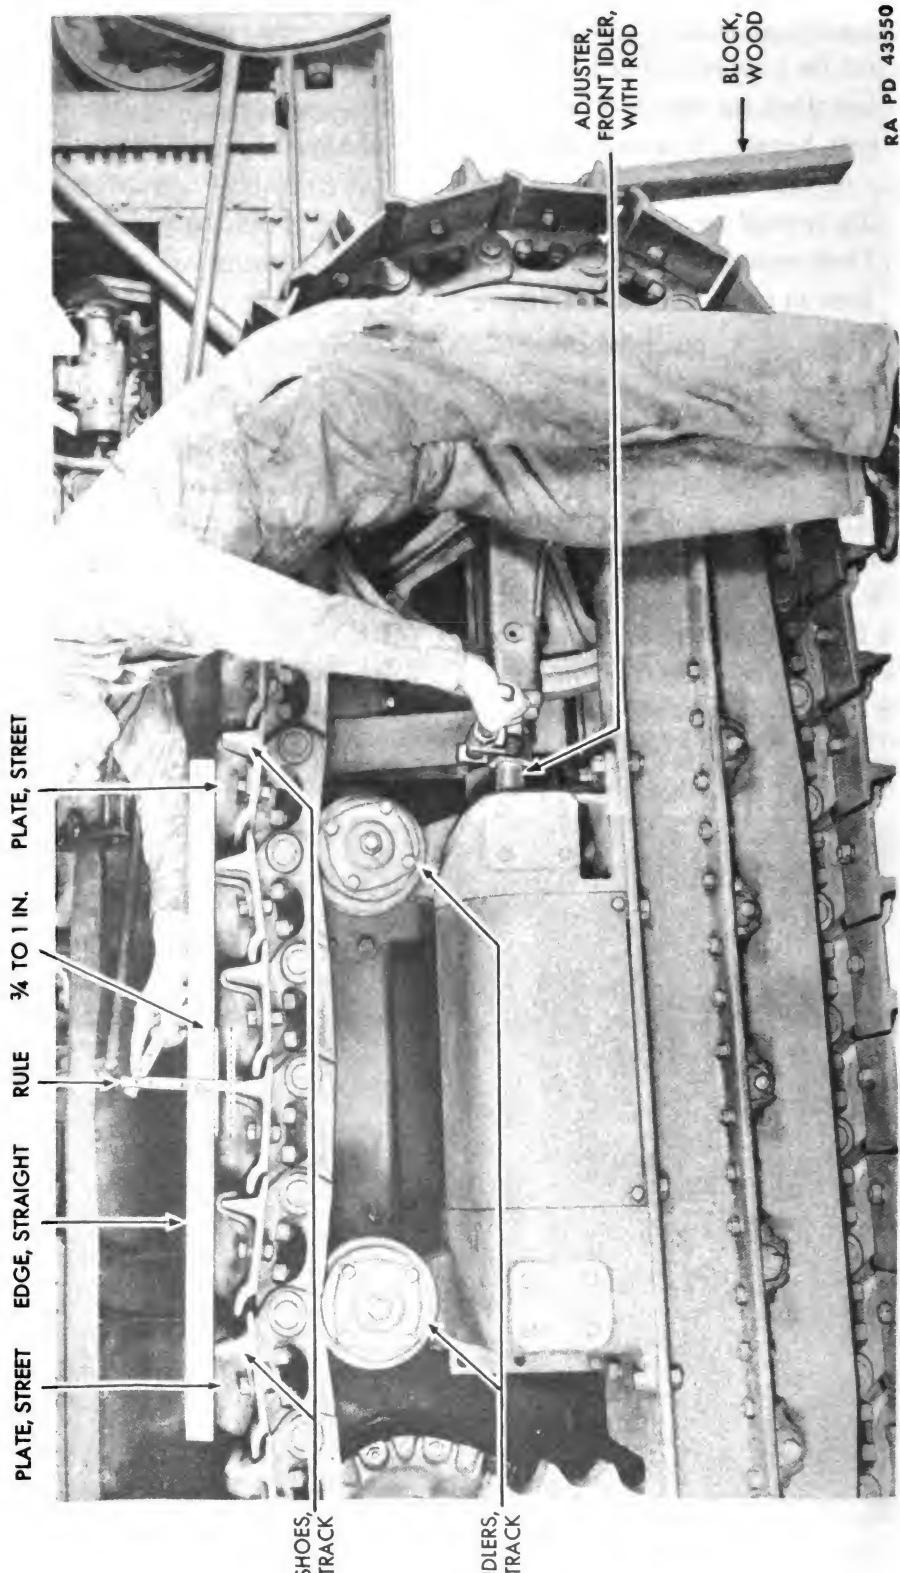

Figure 174 – Track Adjustment
(2) ADJUST TRACK TENSION (fig. 174).
(c) Place a wooden block about 1 foot high under the front track shoe lug. With the engine running, place tractor in low gear and engage clutch just enough so that sprocket drive tightens track along ground and on sprocket. Lock tractor brake, stop the engine and stand on top of track to pull it tight around front idler. All slack should now be in top part of track (fig. 174).